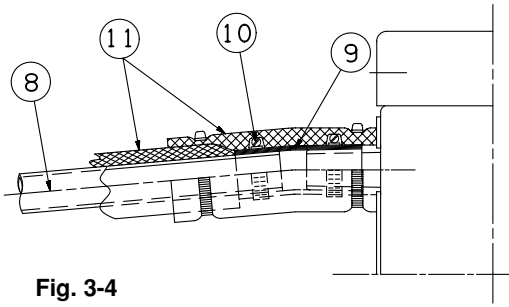

Fig. 3-4
The connection must be well insulated, using foamed polyethylene ⑪ (thickness 8mm). (fig. 3-4)